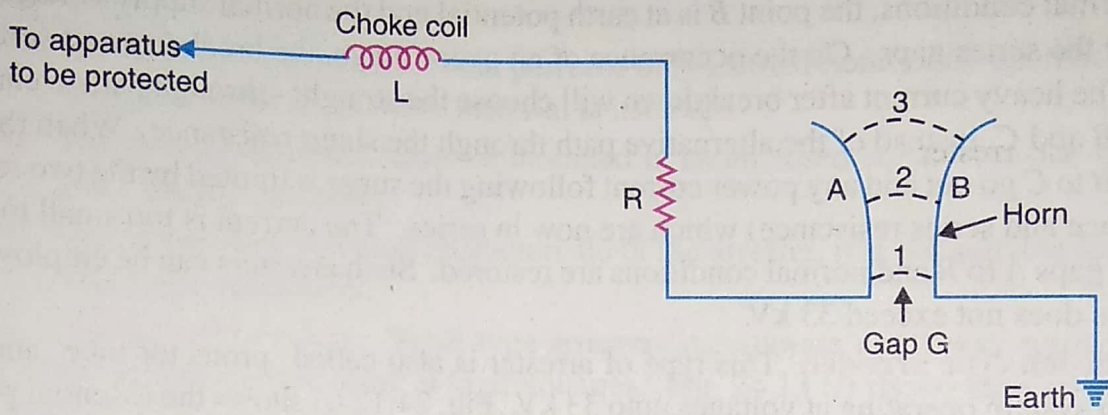

Fig. 24.10
2. Horn Gap Arrester. Fig. 24.10 shows the horn gap arrester. It consists of two horn shaped metal rods A and B separated by a small air gap. The horns are so constructed that distance between them gradually increases towards the top as shown. The horns are mounted on porcelain insulators. One end of horn is connected to the line through a resistance R and choke coil L while the other end is effectively grounded. The resistance R helps in limiting the follow current to a small value. The choke coil is so designed that it offers small reactance at normal power frequency but a very high reactance at transient frequency. Thus the choke does not allow the transients to enter the apparatus to be protected. The gap between the horns is so adjusted that normal supply voltage is not enough to cause an arc across the gap.